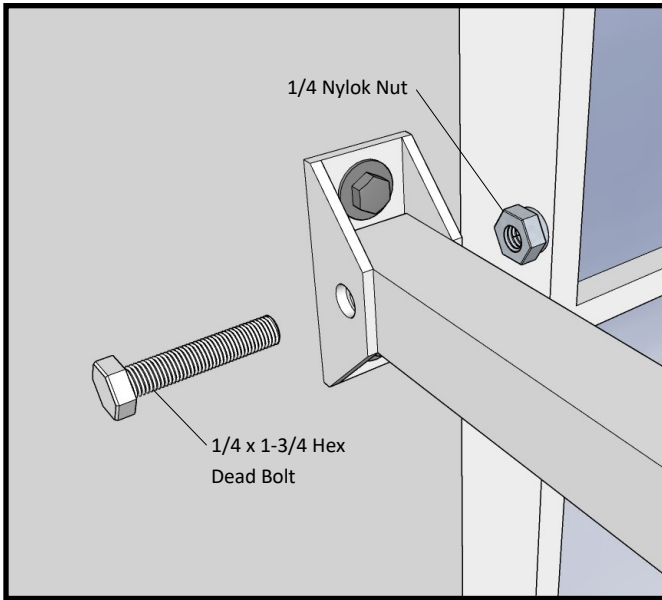

Fig 4
9. Using the provided 1/4 x 1-3/4 Hex Head Bolts and Nylok Nuts (#8), assemble the Kicker Bars to the Kicker Bar Brackets on all of the shutters. (see fig 4)